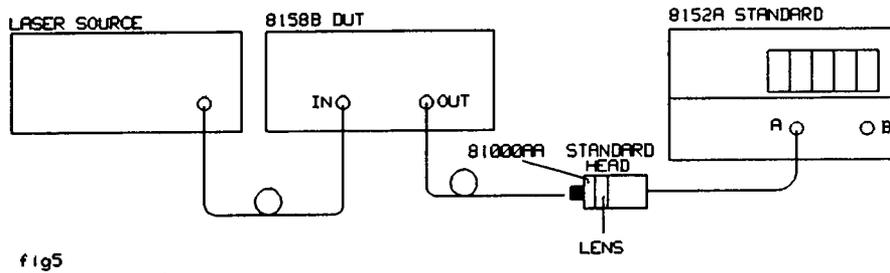

Figure 4-2. Test Setup for Total Insertion Loss
- Connect the equipment as shown in Figure 4-2.